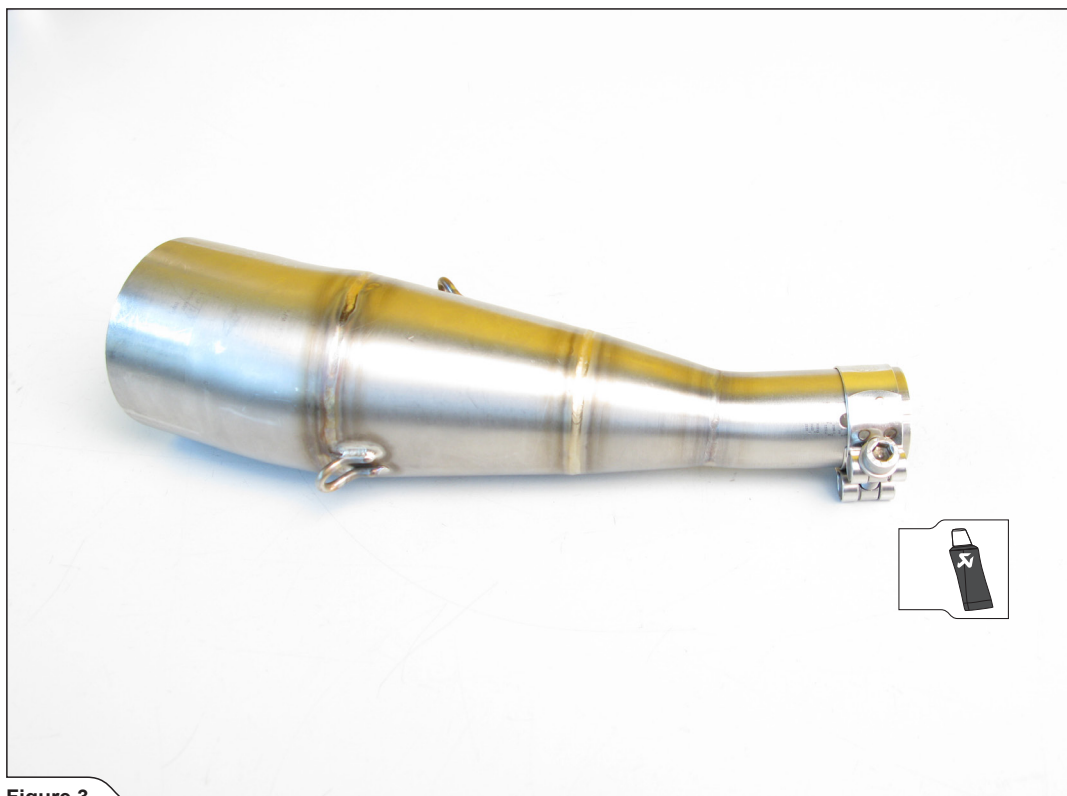

Figure 3
1. Correctly orient and install Akrapovič, metal clamp (Figure 3).